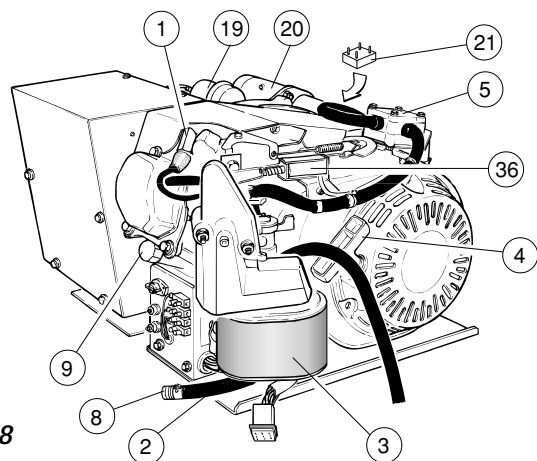

FIG. 8
1. Remove the spark plug nipple (pos. 1 fig. 8) and use a suitable wrench to remove the spark plug.